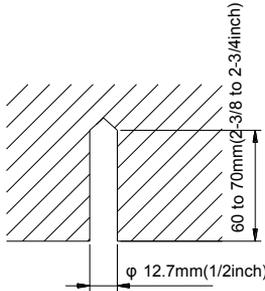

Fig.4.3
- (1) Install the bolts to the ceiling at a place strong enough to hang the unit. Mark the bolt positions from the installation template. With a concrete drill, drill for 12.7mm (1/2inch) diameter holes (Fig. 4.3).